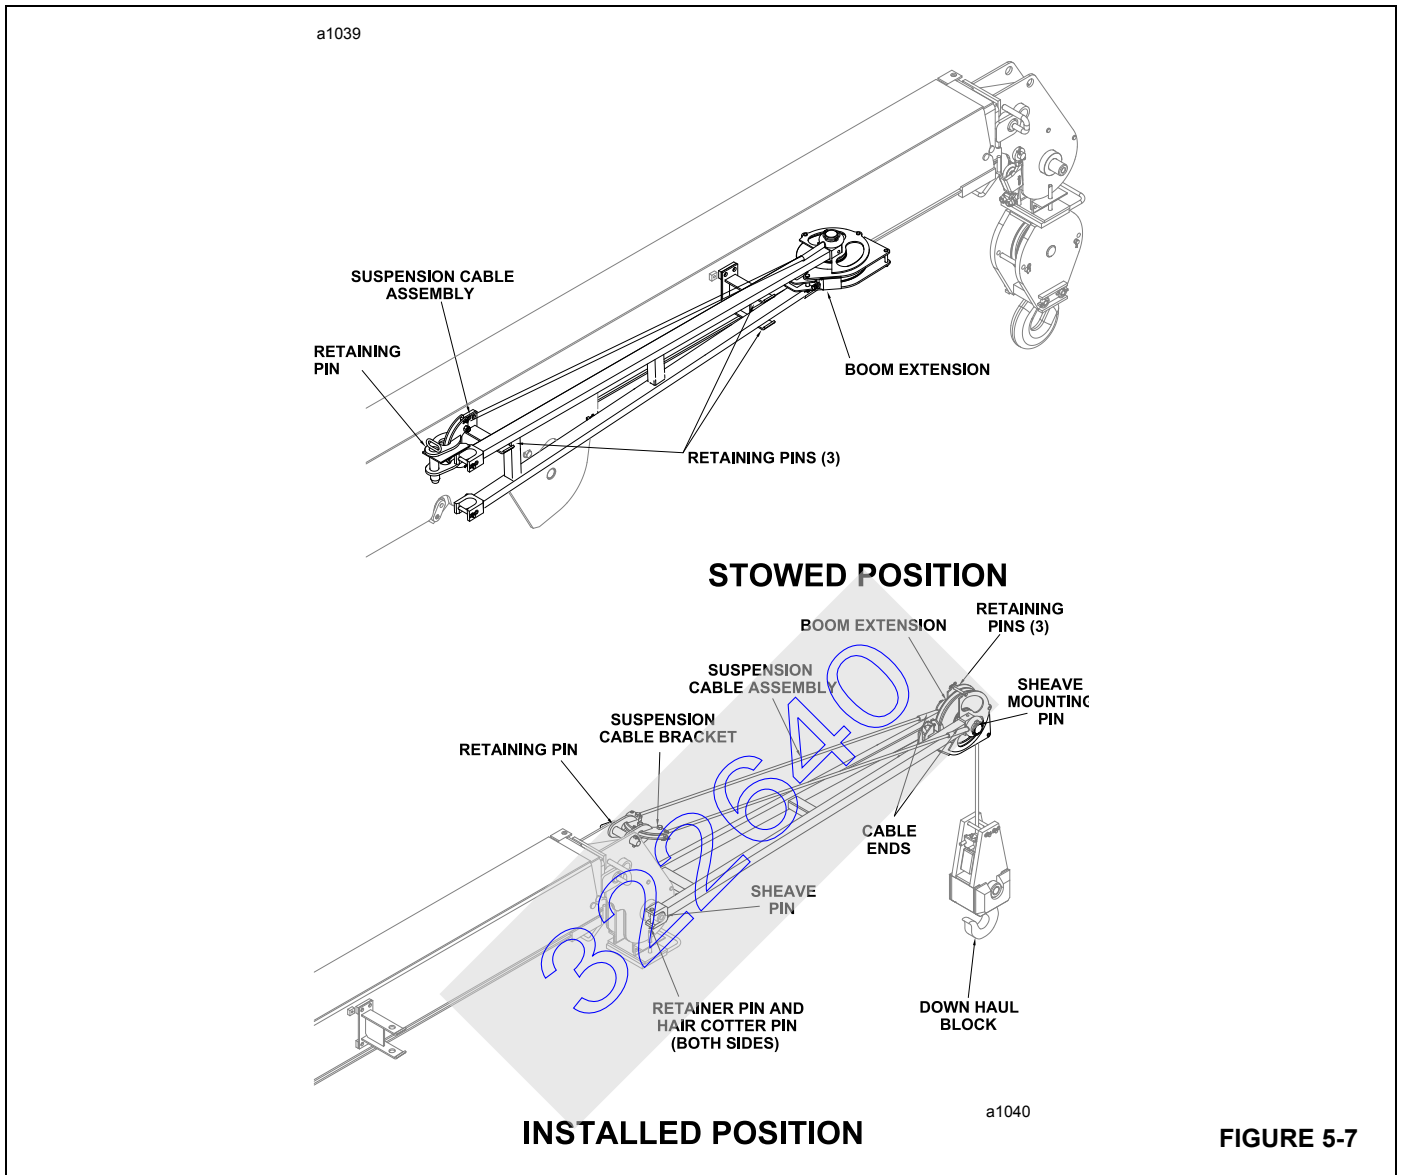

FIGURE 5-7
- a. Remove the retaining pin (Figure 5-7) securing the suspension cable bracket to the bracket on the boom.
- a. Remove the two lynch pins and cable ends (Figure 5-7) from the sheave mounting pin. Place the cable assembly on the ground.
2. Remove the three retaining pins from the sheave end of the jib (Figure 5-7). Remove the wire rope from the sheave. Operate the hoist control to wind the wire rope onto the hoist drum. Install the three retaining pins.